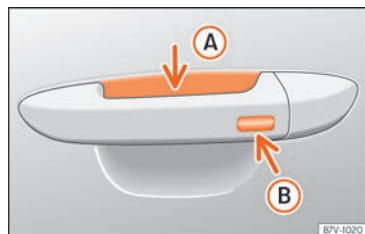

Fig. 50 Door handle: sensor surfaces.
»» Fig. 50
- Touch the sensor surface »» Fig. 50 Ⓑ on the outside of the door handle. All turn signals flash once.
- Within 5 seconds, touch the sensor on the outside of the door handle once »» Fig. 50 Ⓑ. Do not grip the handle while doing so. This temporarily deactivates the Keyless Access system.
To close all the electric windows using the comfort function, keep a finger on the locking sensor surface »» Fig. 50 Ⓑ (arrow) of the door handle for a few seconds until the windows have closed.